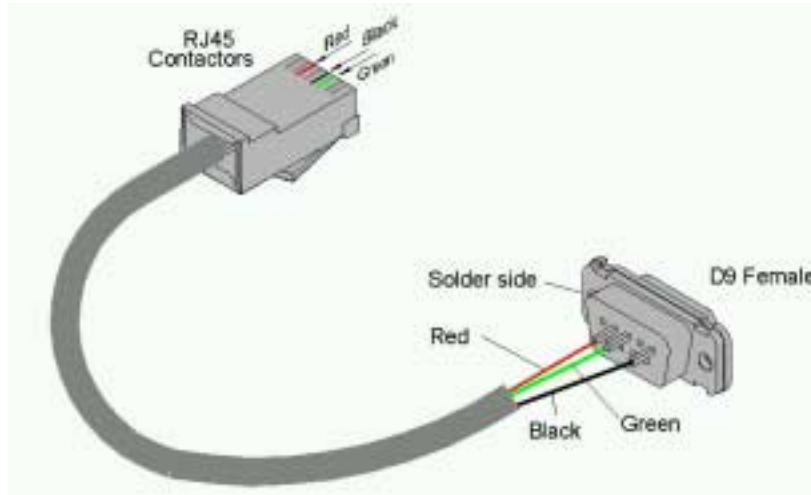

Figure 5-6: BSDU-to-BSPS management connectors – RJ-45 to 9-Pin D-type
- 9-Pin DB-type male (BSDU) to 8-Pin RJ-45 (BSPS) (see Figure 5-6)